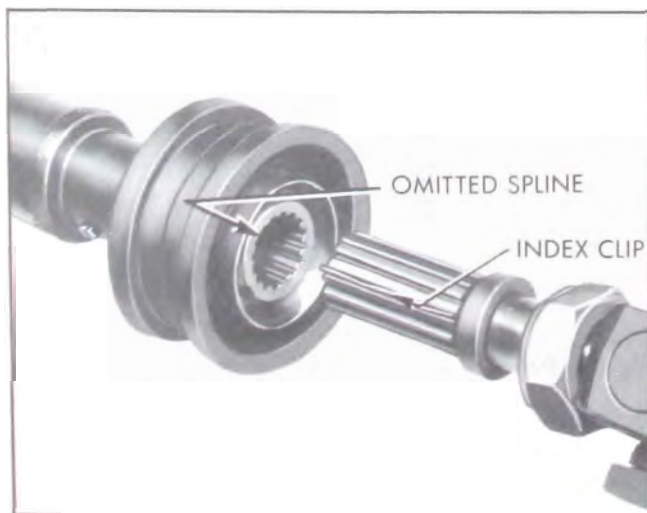

Figure 6-43—Assembling Slip Joint
2. Align index spring with missing internal spline in rear end of front propeller shaft and slide slip joint together. See Figure 6-43.